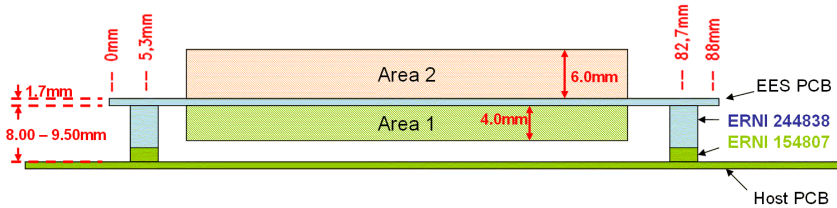

Figure 2-1: EES Board space
**Note:** the mechanical restrictions shown in figure 2-1 above. Due to the clearance height no additional external parts are allowed in areas 1 and 2.